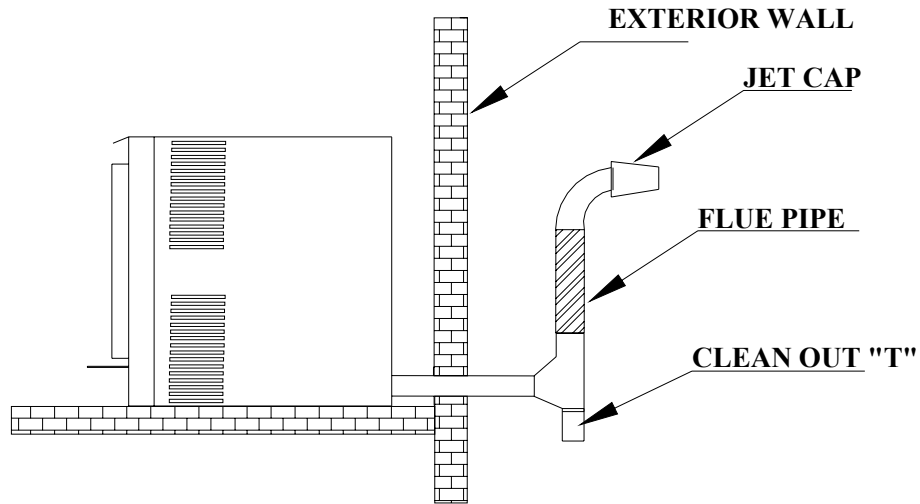

FIGURE 3: RECOMMENDED EXTERIOR WALL INSTALLATION
8. For installations that pass through a vertical wall and not through the roof, Country Flame recommends an installation similar to the one shown in FIGURE 3. Dimension A should be a minimum of 16" and dimension B should be a minimum of 3". Any outside vent should have a vertical run of at least 5'. At the same time, ensure that termination of the flue pipe does not occur just under the roof overhang. Such a termination can cause smoke to seep back through the roof and into the home. For all flue pipe runs over 5', there should be a flue support no less than 5' apart.